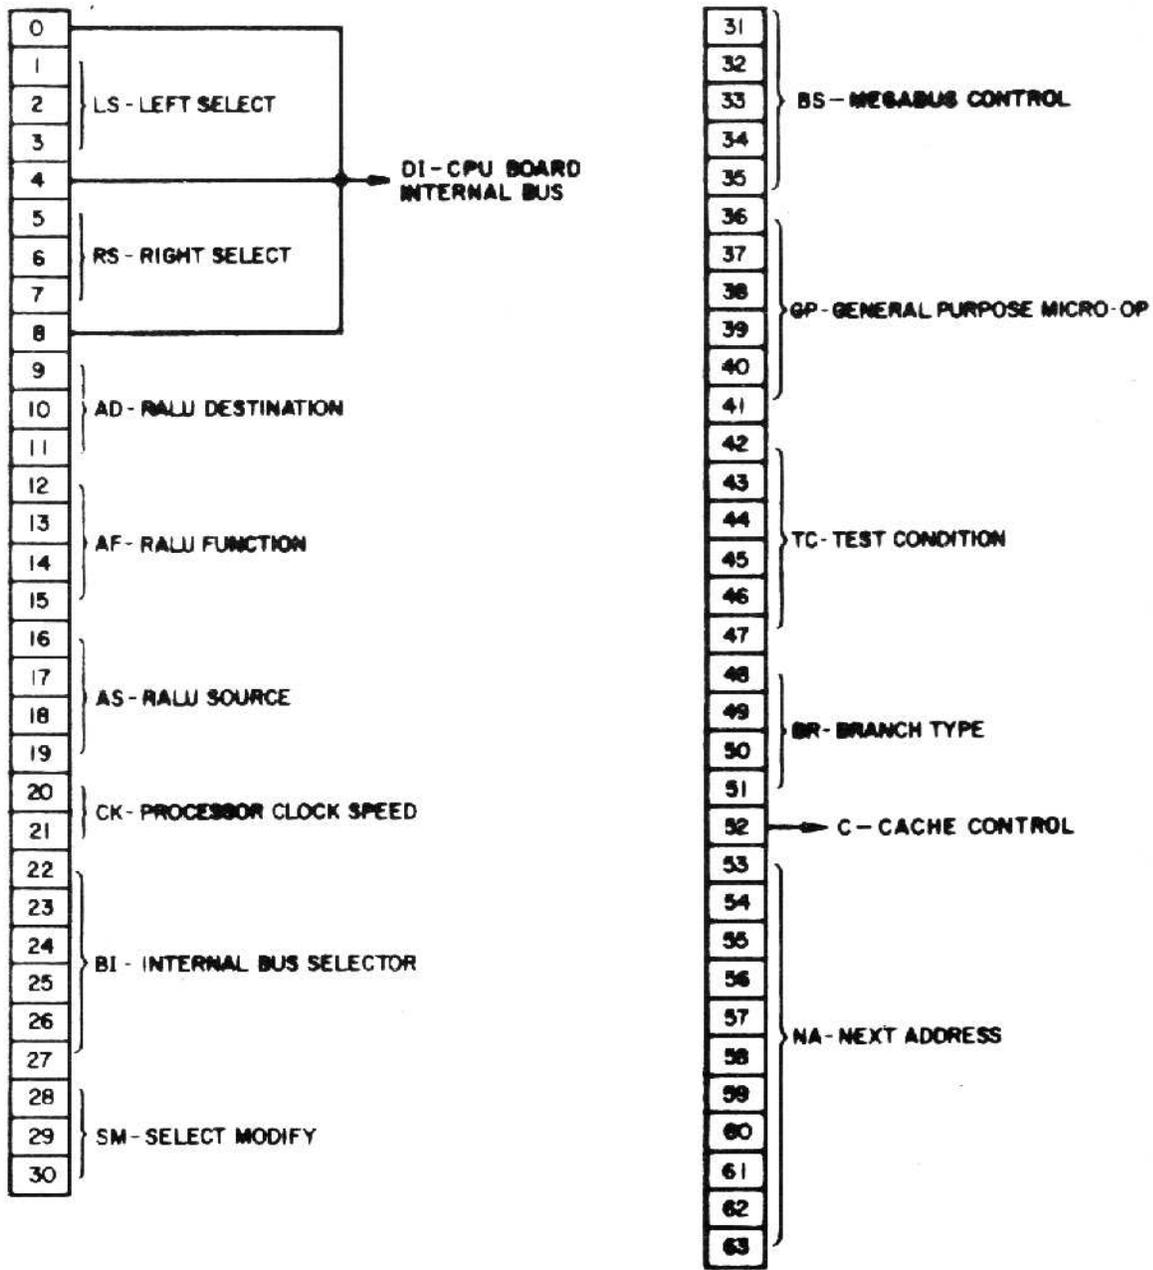

Figure 3-1 Firmware Word Format
The firmware word is illustrated in Figure 3-1. The firmware word is divided into 15 distinct fields: (1) LS, (2) RS, (3) DI, (4) AD, (5) AF, (6) AS, (7) CK, (8) BI, (9) SM, (10) BS, (11) GP, (12) TC, (13) BR, (14) C, and (15) NA. Each of these field controls a portion of the hardware (refer to subsections 3.1.1 through 3.1.15).
3.1.1 Left Select (LS) Field